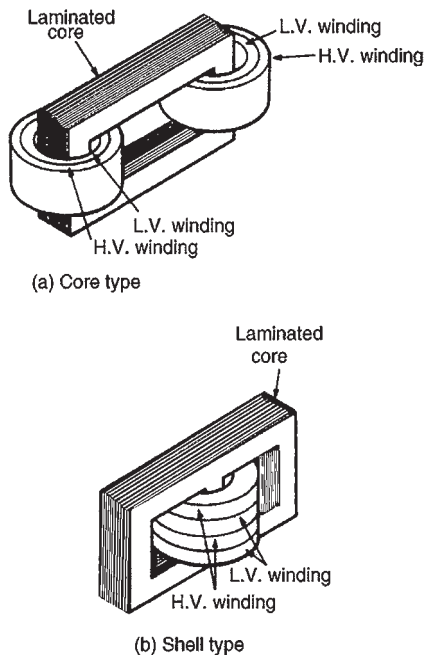

Figure 21.6
- (i) There are broadly two types of single-phase double-wound transformer constructions – the **core type** and the **shell type**, as shown in Fig. 21.6. The low and high voltage windings are wound as shown to reduce leakage flux.